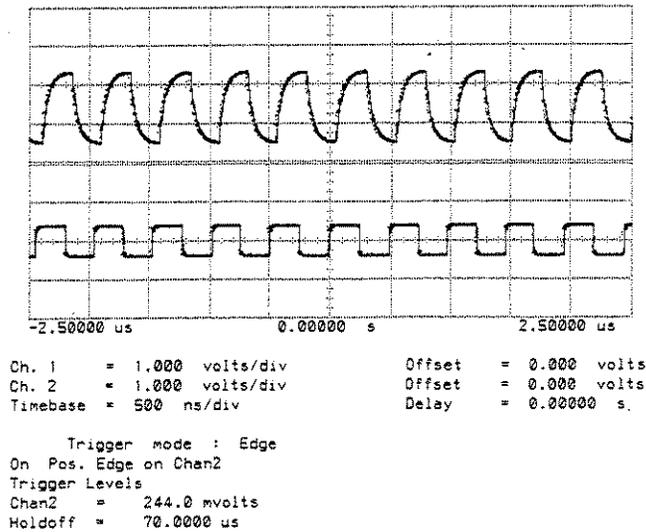

Figure 8-27 Pulse Shape Network Adjustment
5. Set the Oscilloscope to trigger on Channel B and adjust the pulse shape network to obtain a display as shown in Figure 8-27.